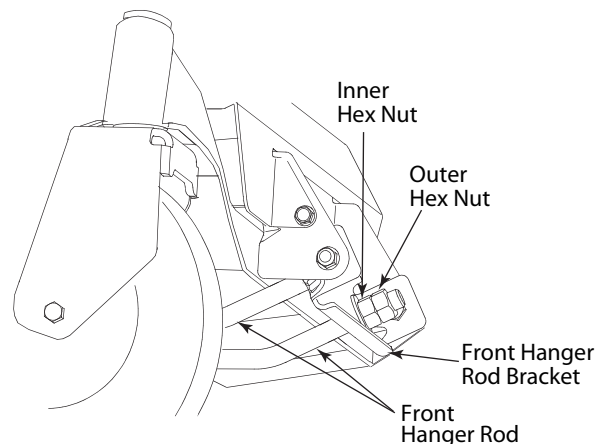

Figure 6-8
- From the front of the tractor, loosen the outer hex nuts on the deck front hanger rod and turn them away from the inner nuts. Refer to Figure 6-8.
- If the front of the deck was too low, turn the inner hex nuts clockwise against the hanger bracket to shorten the front hanger rod and raise the front of the deck. Refer to Figure 6-8.